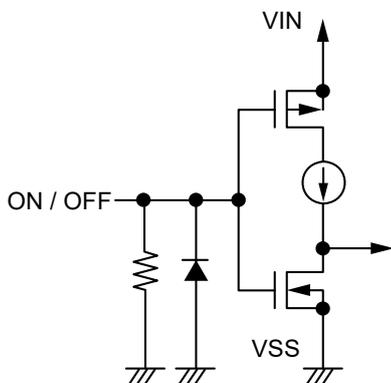
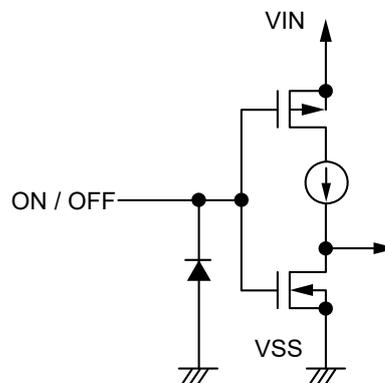

Figure 18 S-1312 Series A / C type
Figure 19 S-1312 Series B / D type
Note that the current consumption increases when a voltage of 0.25 V to $V_{IN} - 0.3$ V is applied to the ON / OFF pin. The ON / OFF pin is configured as shown in **Figure 18** and **Figure 19**.
*1. Note that the IC's current consumption increases as much as current flows into the pull-down resistor when the ON / OFF pin is connected to the VIN pin and the S-1312 Series A / C type is operating (refer to **Figure 18**).